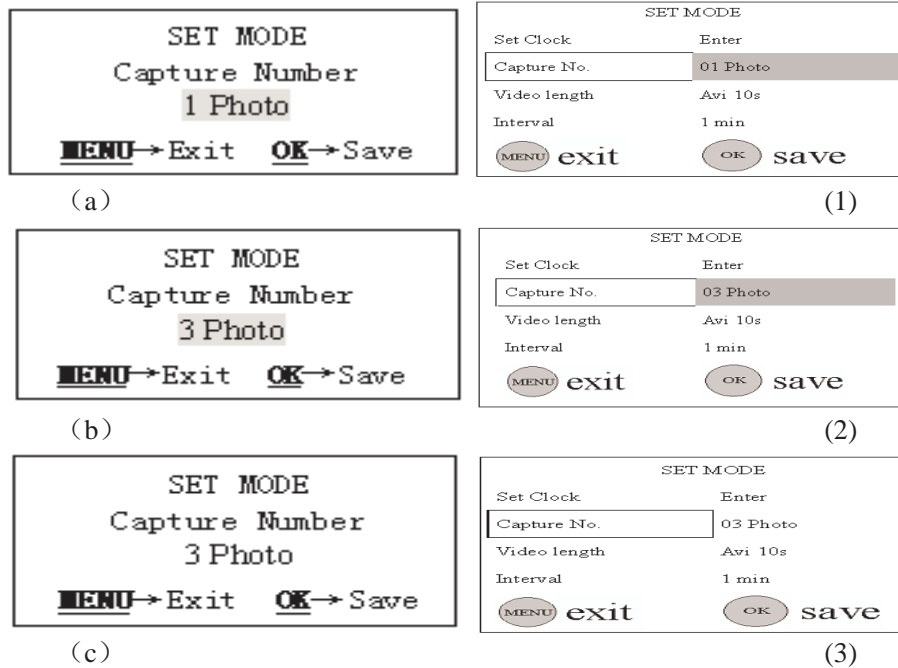

Figure 10: Setting shooting numbers
- 1 In MENU, press the UP or DOWN key until “Capture Number” appears, as shown in Fig. 10(a) and 10(1).
- 2 Press the RIGHT key to change the value to the desired number (1, 2 and 3). The desired number will be highlighted, as shown in Fig. 10(b) and 10(2).
- Press the OK key to save or press the MENU key to cancel and exit. After pressing the OK key, the selected value will no longer be highlighted, as shown in Fig. 10(c) and 10(3).